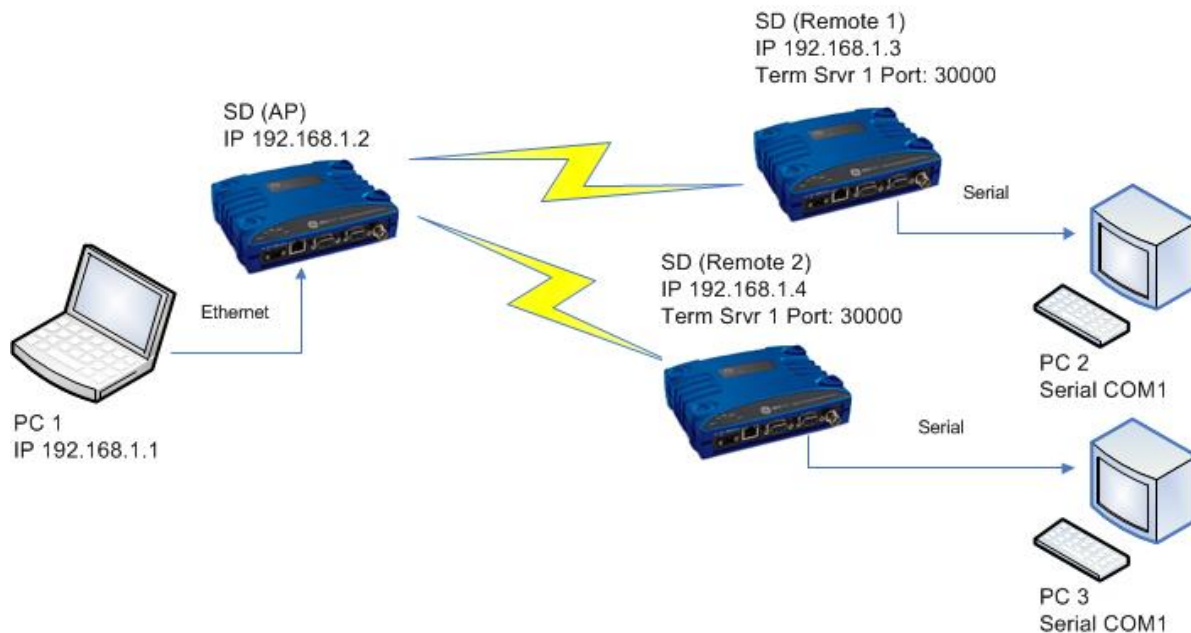

Figure 33. Terminal Server Example
The following describes a Terminal Server implementation in a radio network. Figure 33 below is referenced in this discussion.
- Radio (RF) link is good between AP and Remote 1, and AP and Remote 2.
- IP addresses are properly configured as shown in Figure 33.
1. Configure Remote 1 and Remote 2 by navigating to the Term Svr 2 COM2 Configuration screen and setting the parameters as listed below. (Note that an Ethernet connection to Remote 1 and Remote 2 — not shown in Figure 33 — will be required for this step unless Serial is used.)